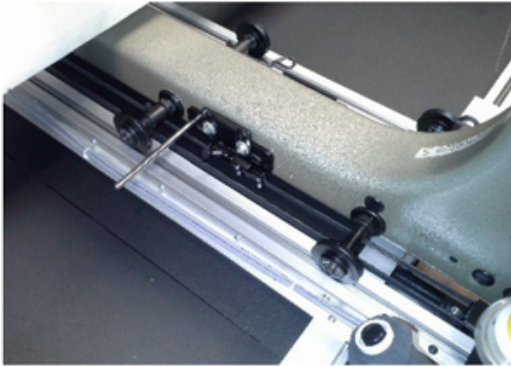

Fig. 1
- All the wheels on the head will be replaced as shown in Fig.1 & 2.